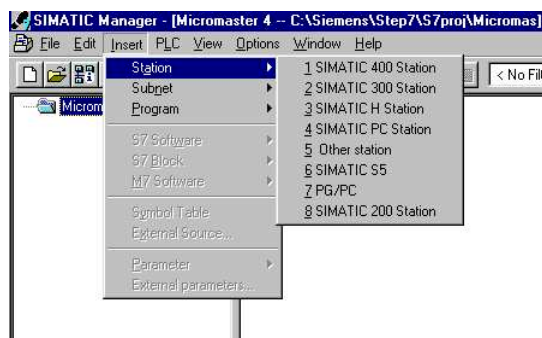

Figure 6-2 Select Station Screen
5. From the Insert Menu, select Station (see Figure 6-2).